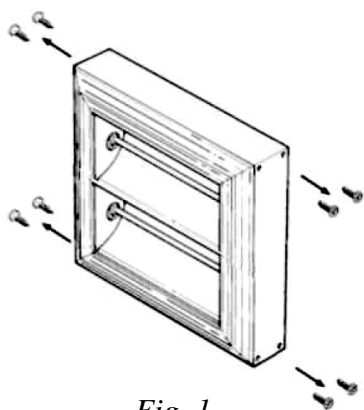

Fig. 1
3. Remove the screws from the end extrusion(s) and fascia panels adjacent to the failed lamp (see Fig. 1 for illustrative purposes only).